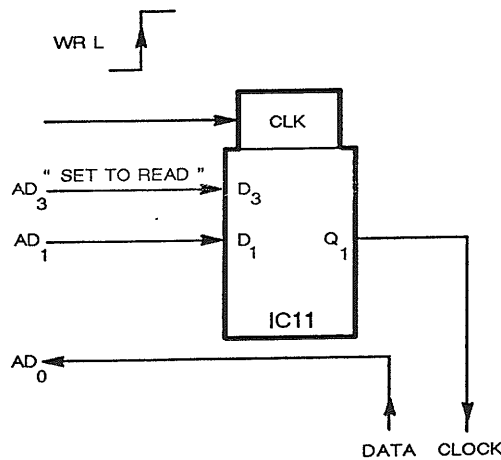

Fig. 4-5 Data reception (AA2/1)
57. In order to send information from A2/2 to AA2/1, microprocessor, data is clocked out from an eight bit shift register into a memory location in the processor's memory space. By rotating the bit addressed in the latter the serial to parallel conversion can take place. To realize this the arrangement on AA2/1 is slightly altered. Fig. 4-5 shows how this occurs. IC11, pin 2 is taken 'high' which disables IC10c. IC10b pin 13 is taken 'low' when appropriate to allow the data from A2/2 to have control over the data/address line AD0.